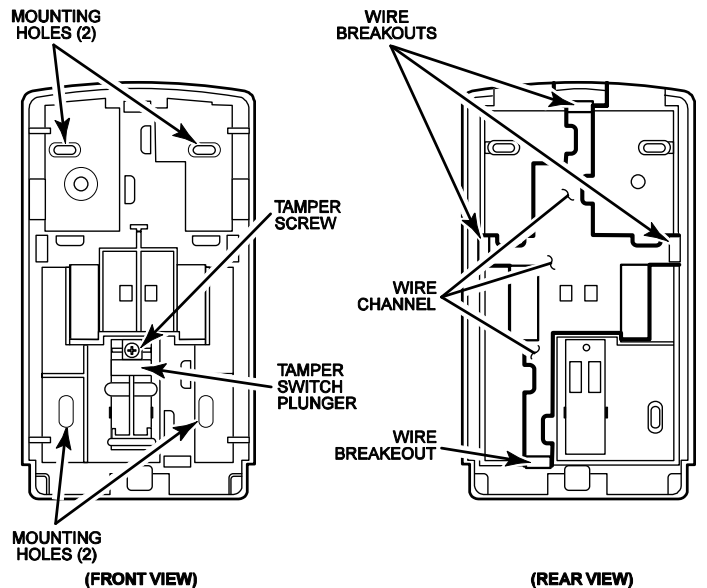

Figure 2 – Mounting the keypad
The keypad must be mounted within the protected premises. It can be surface mounted directly to walls. A built-in tamper switch detects separation of the case-back from its mounting surface. To include tamper protection, a tamper screw must be inserted in the case-back, as shown in Figure 2.
2. If using the tamper switch place the case back on a flat surface and insert a screw through the tamper switch plunger in the case back, as shown in Figure 2. Tighten the tamper screw until the upper portion of the tab (near the tamper screw) contacts the case back.